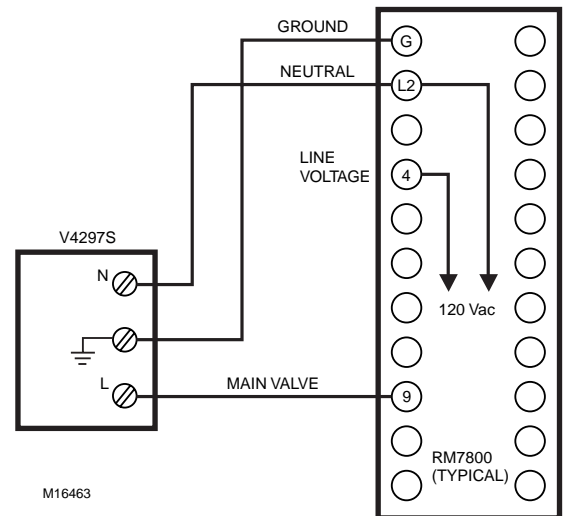

Fig. 5. Typical wiring diagram for V4297 NOV.
3. See Fig. 5 for typical V4297S field wiring with the RM7800 Relay Module. Follow the burner manufacturer wiring diagram, when provided. Refer to the relay module wiring diagram for specific wiring terminal designations.